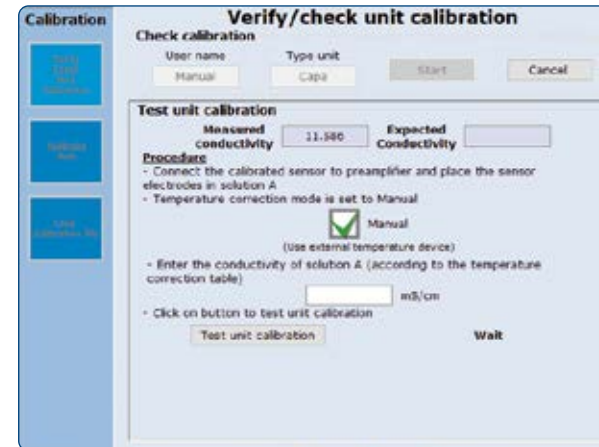

Figure 52: Checking the Sensor calibration.
10. Press Test Sensor Calibration to carry on with the Verification (Figure 52). The successful Verification is indicated. If this procedure fails it is recommended to perform a calibration (see Chapter 10.6.1).